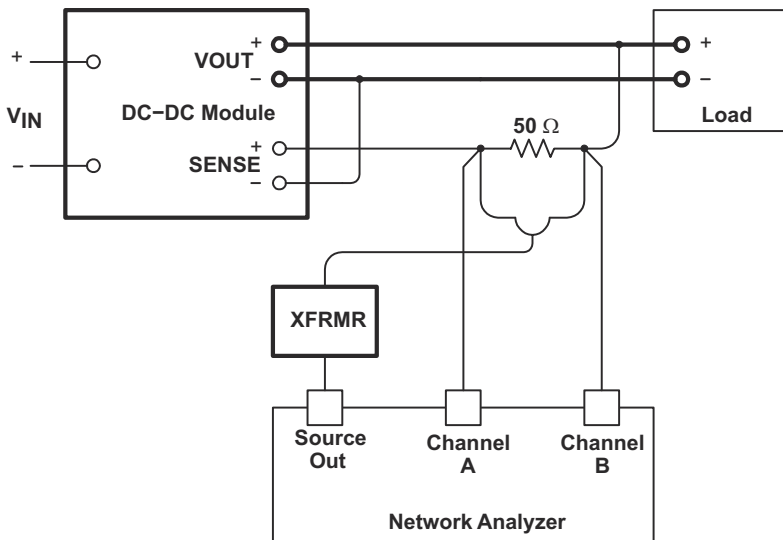
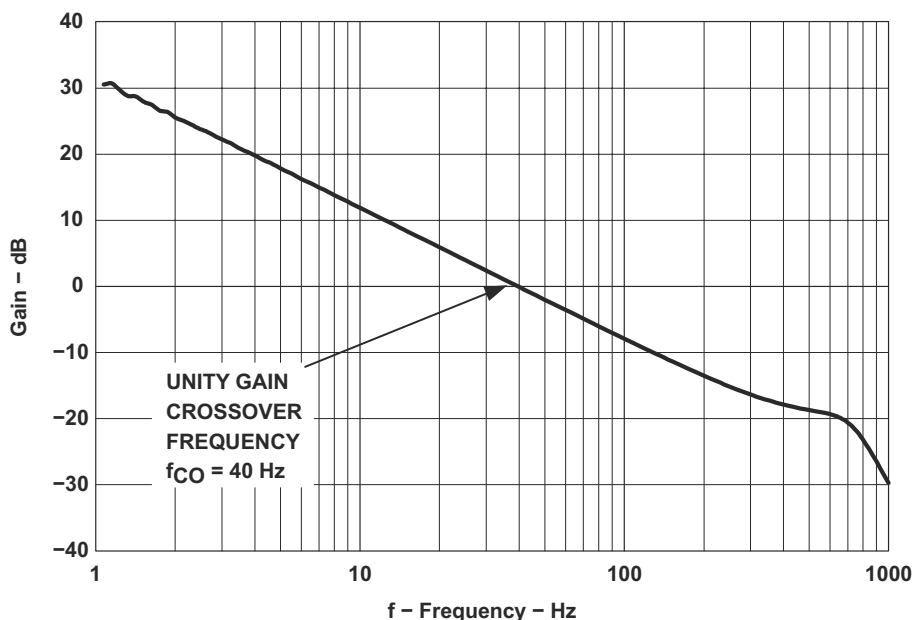

图 7-4. Connection Diagram for Unity-Gain Crossover Frequency Measurement
图 7-5. Power Module Bode Plot
Using the test configuration shown in 图 7-4, measure the unity-gain crossover frequency of each power module to be paralleled. Set the load to the maximum output current ( $I_{OUT(max)}$ ) to be shared by each module. 图 7-5 shows a typical resultant Bode plot. Select the plot with the lowest 0dB crossover frequency and assign that frequency to  $f_{CO(module)}$  for design use.
The total load-share loop unity-gain crossover frequency,  $f_{CO}$ , must be set at least one decade below the lowest measured crossover frequency of the paralleled modules previously measured,  $f_{CO(module)}$  (see 图 7-5). Compensation of the transconductance error amplifier is accomplished by connecting a compensation resistor,  $R_{EAO}$ , in series with a capacitor,  $C_{EAO}$ , between EAO and GND. Use 方程式 8 and 方程式 13 to calculate the values of these components.  $C_{EAO}$  is calculated first.
- $G_{MODULE}(f_{CO})$  is the measured value of the gain (in dB) from 图 7-5, at the targeted load-share crossover frequency.